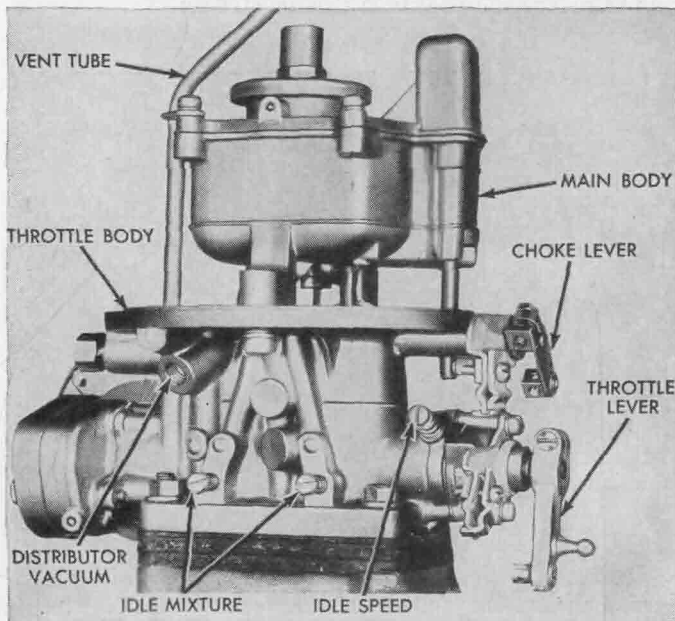

FIG. 5-30. Carburetor used on late-model Ford V-8 engines. (Ford Motor Company)
2. *Eight-cylinder carburetor.* A late-model carburetor for a Ford V-8 engine is shown in Fig. 5-30. This is a dual carburetor (two barrels) designed to use an air cleaner that mushrooms over and surrounds the main body. The construction gives the carburetor a somewhat different appearance, but it operates in essentially the same manner as other dual carburetors. Figure 5-31 shows how the carburetor air cleaner is assembled on the carburetor.